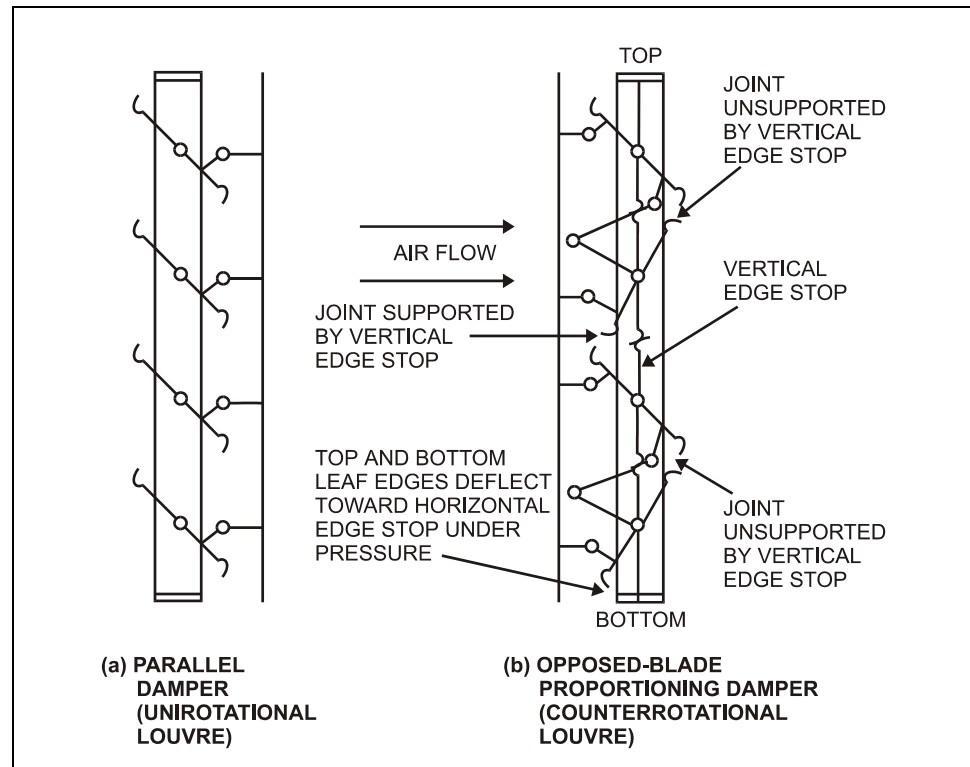

Figure 4-40. Louvered Dampers
- *Louvered*, or multiblade, dampers consist of two or more rectangular vanes that are mounted on shafts one above the other and interconnected so as to rotate together. The vanes are operated by an external lever that can be positioned manually, pneumatically, or electrically. These dampers may be parallel-blade or opposed-blade. See Figure 4-40.